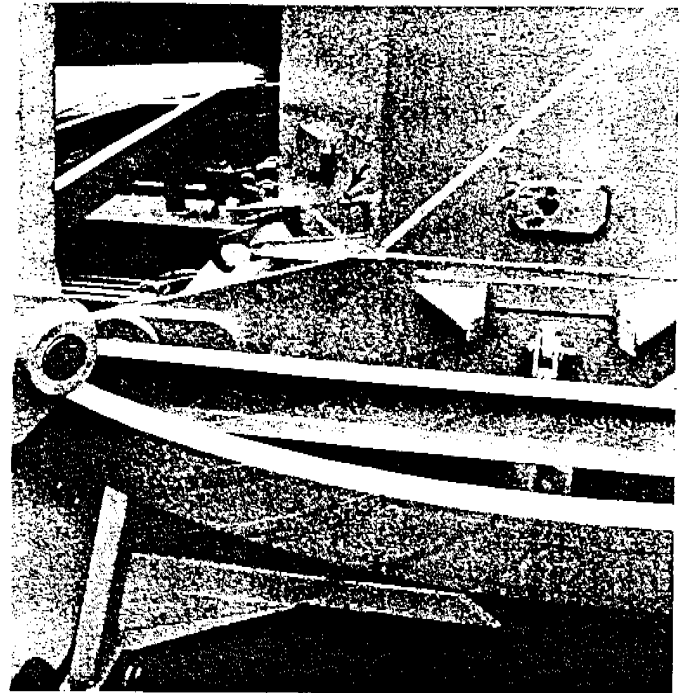

Fig. 43
- b. Open the drain valve on the base of the tower to allow the arms to fold tightly against the tower bumpers. (Fig. 43)